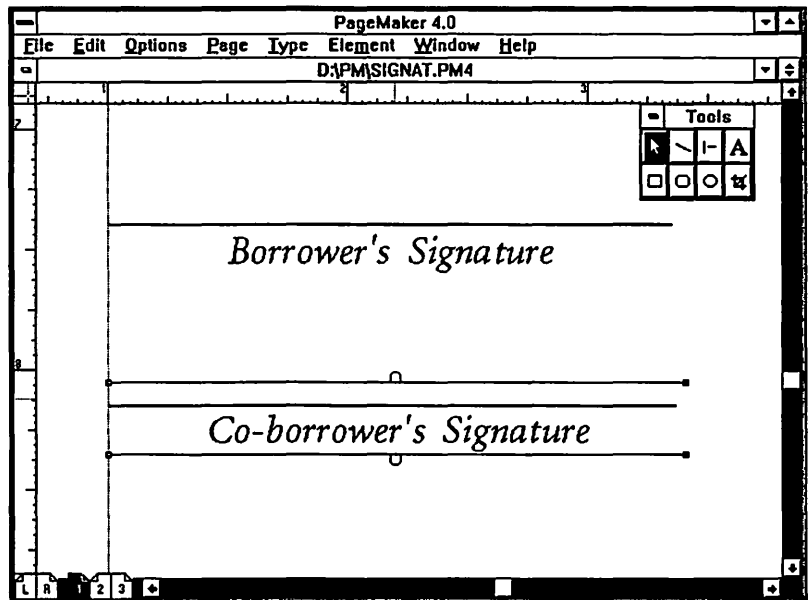

FIGURE 4-10 The signature line in this PageMaker layout is an inline graphic in the paragraph above the single line of text.
5. To center-align the text with the rule, make the text block the same width as the rule (Figure 4-10), and choose the *Center* option via the ALIGNMENT command under the Type menu for the text.